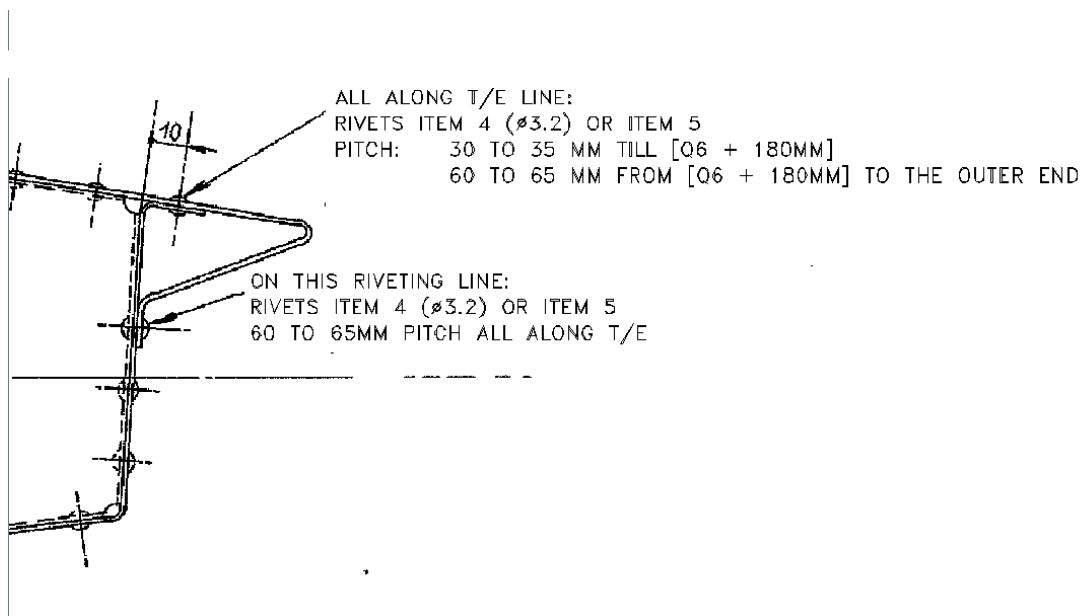

Figure 2.5.1: Riveting at trailing edge.
6. Complete riveting of the upper rear skin trailing edge with Cherrymax CR3213-4 (item 4) or alternative Intermax CR4193-4 rivets (item 5) in figure 2.5.1 below: